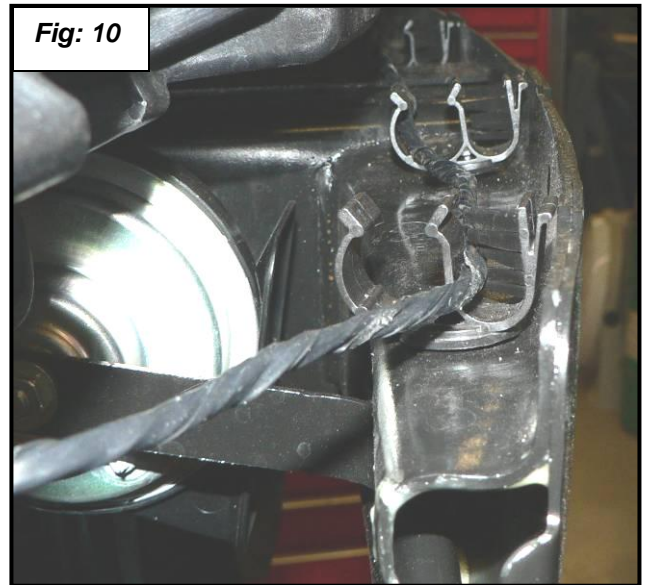

Fig: 10
12. Remove the air duct (1) that goes from the top of the radiator to the air box by removing the screws (2). See figure 10.
16. Disconnect the wire that runs along the top of the bumper from the clips on the bumper as shown in figure 10.